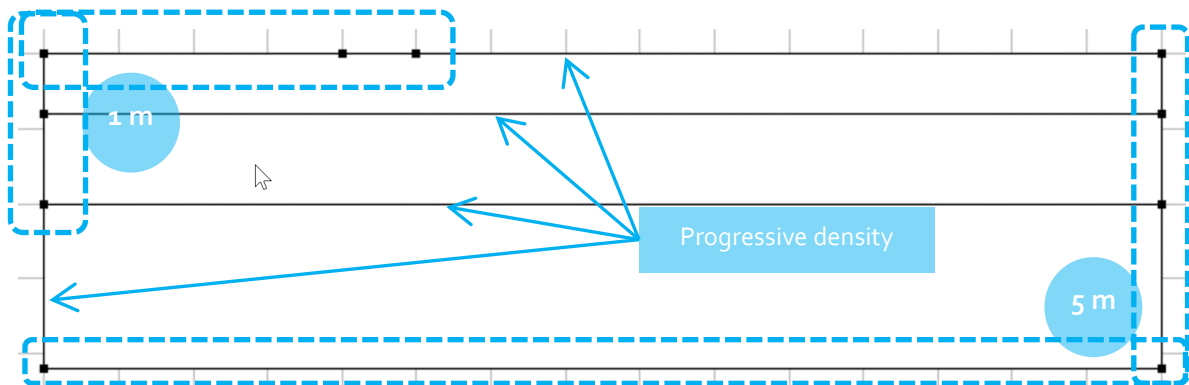

Figure 5: Mesh density plan
2. Select all the contours of the embankment (as pictured on Figure 5)